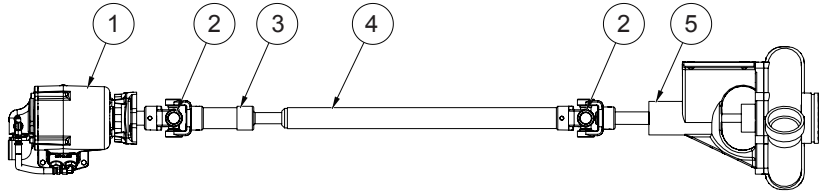

Fig. 1. PTO, Drive line, Pump
1. Read and follow pump (Fig. 1 - 5) and PTO (Fig. 1 - 1) maintenance instructions as provided in the Berkeley manual beginning at page 18 and Muncie PTO manual section 2.4.
1. Inspect u-joints (Fig. 1 - 2) and spline shaft (Fig. 1 - 4) for wear weekly.
2. Grease u-joints and slip yoke (Fig. 1 - 3) weekly.